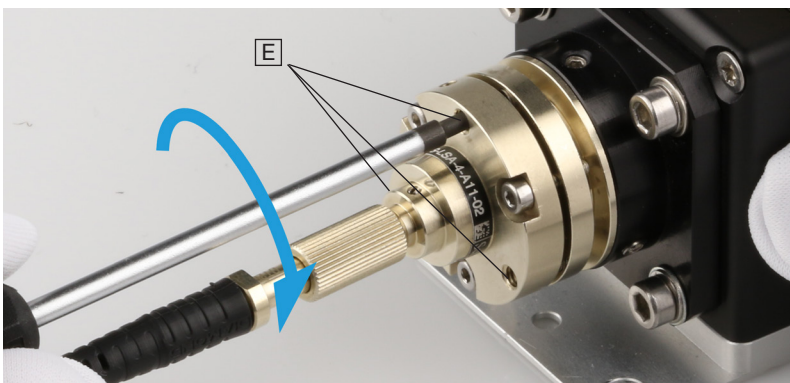

Figure 22:
Now, the locking screws are used to fine-adjust and lock the setting. First, fasten the three locking screws (grub screws, Figure 22, [E]) equally with very gentle force until you feel some resistance. Use the hex key 50HD-15. The detector at the fiber end now shows a signal, but it usually differs from the maximum signal seen before. The three locking screws are now tightened one after another, e.g. in a clockwise direction. Each screw is tightened so that the power signal is a little beyond the maximum. The procedure is repeated for each screw until two or three complete cycles of adjustment are completed. The last screw in the last adjustment round is tightened in a way, so that the detector shows maximum power at the fiber end. Please note, that the maximum torque for these screws must not exceed 40 Ncm.